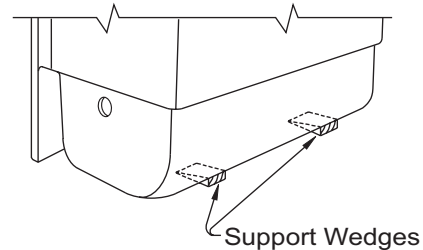

Figure 4
7. Place shims under the unit after it is put into place and as it is being leveled. Apply an adhesive to the bottom of each shim to permanently secure into place. To ensure proper fit, support and a solid base, a minimum of two shims must be used on each unit. See Figure 4 for additional details.